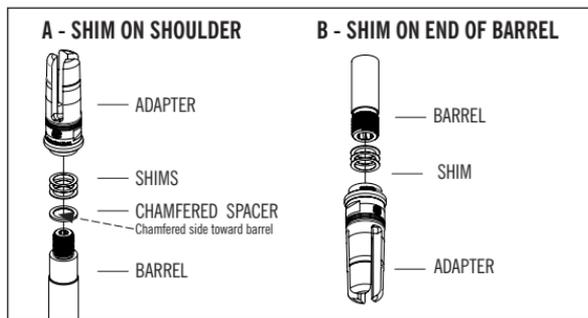

FIGURE 4
- Install the proper shim stack and spacer, if necessary, by following Figure 4 below.